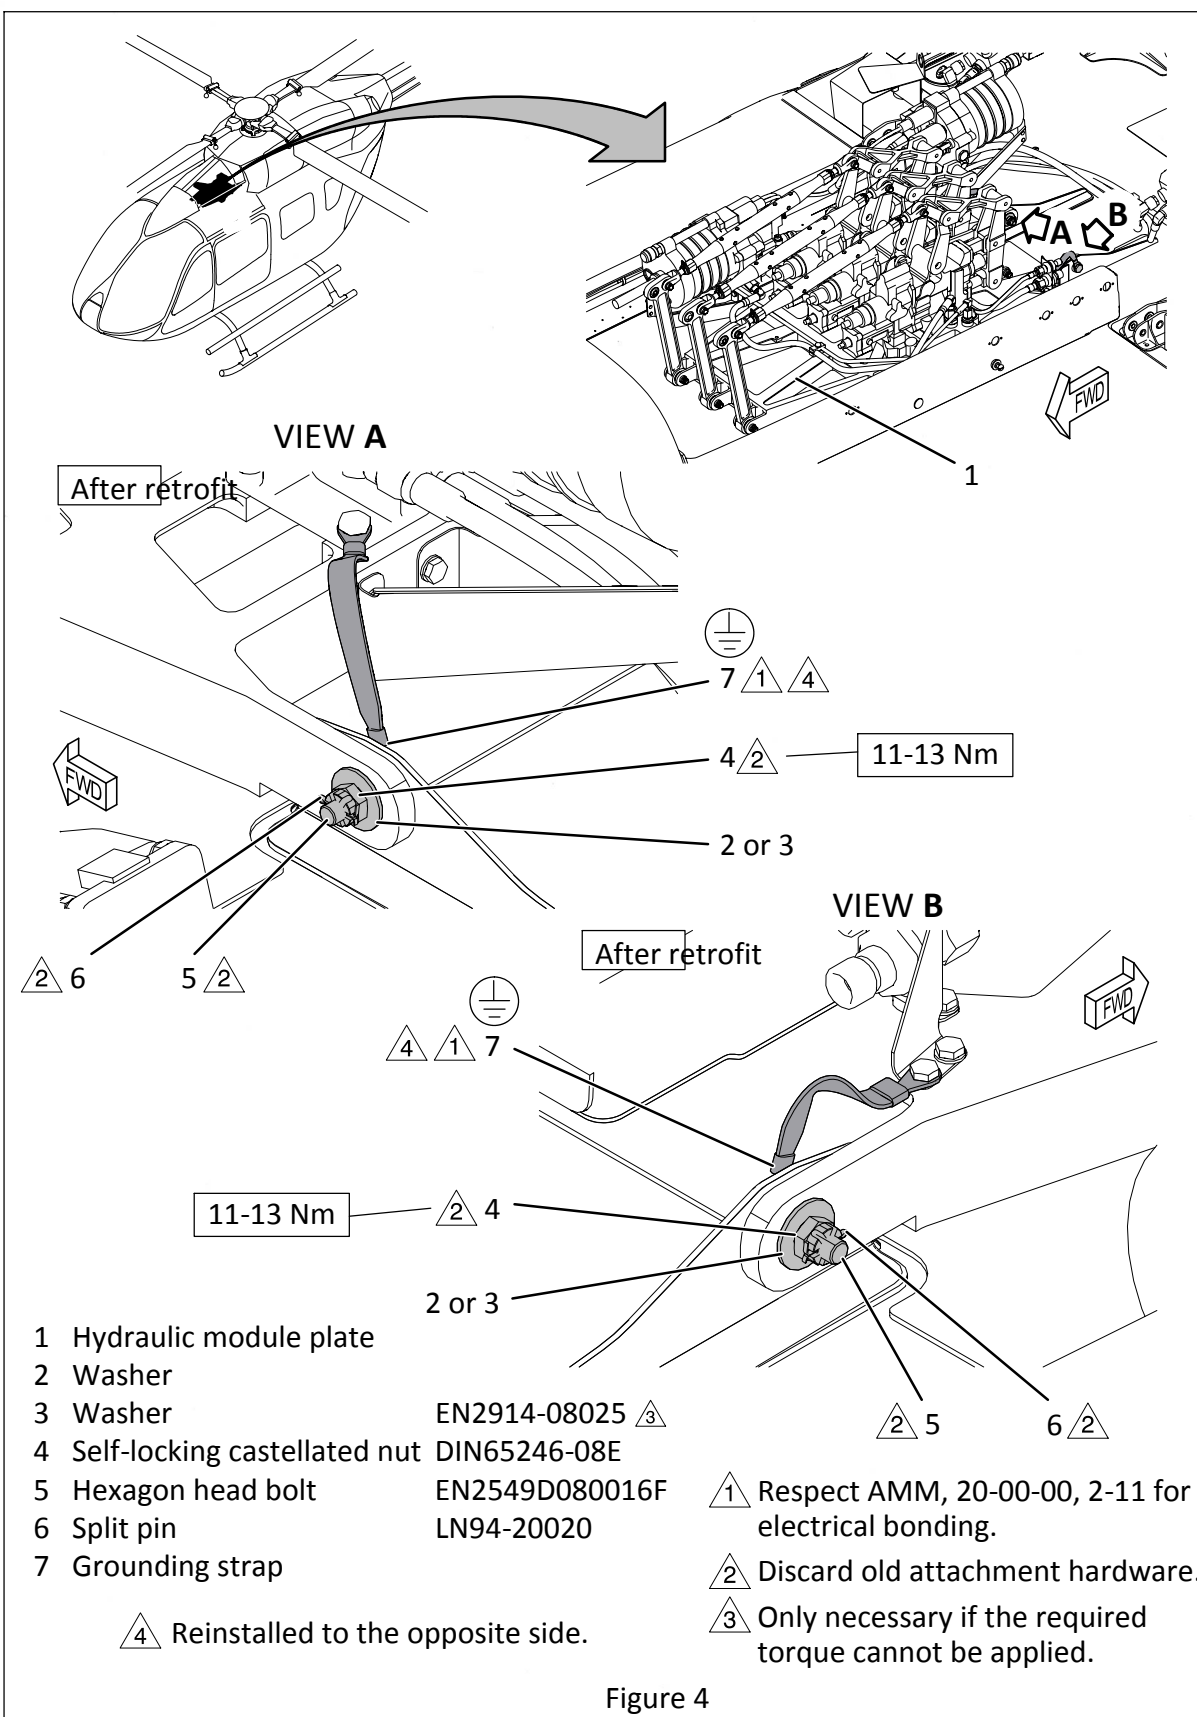
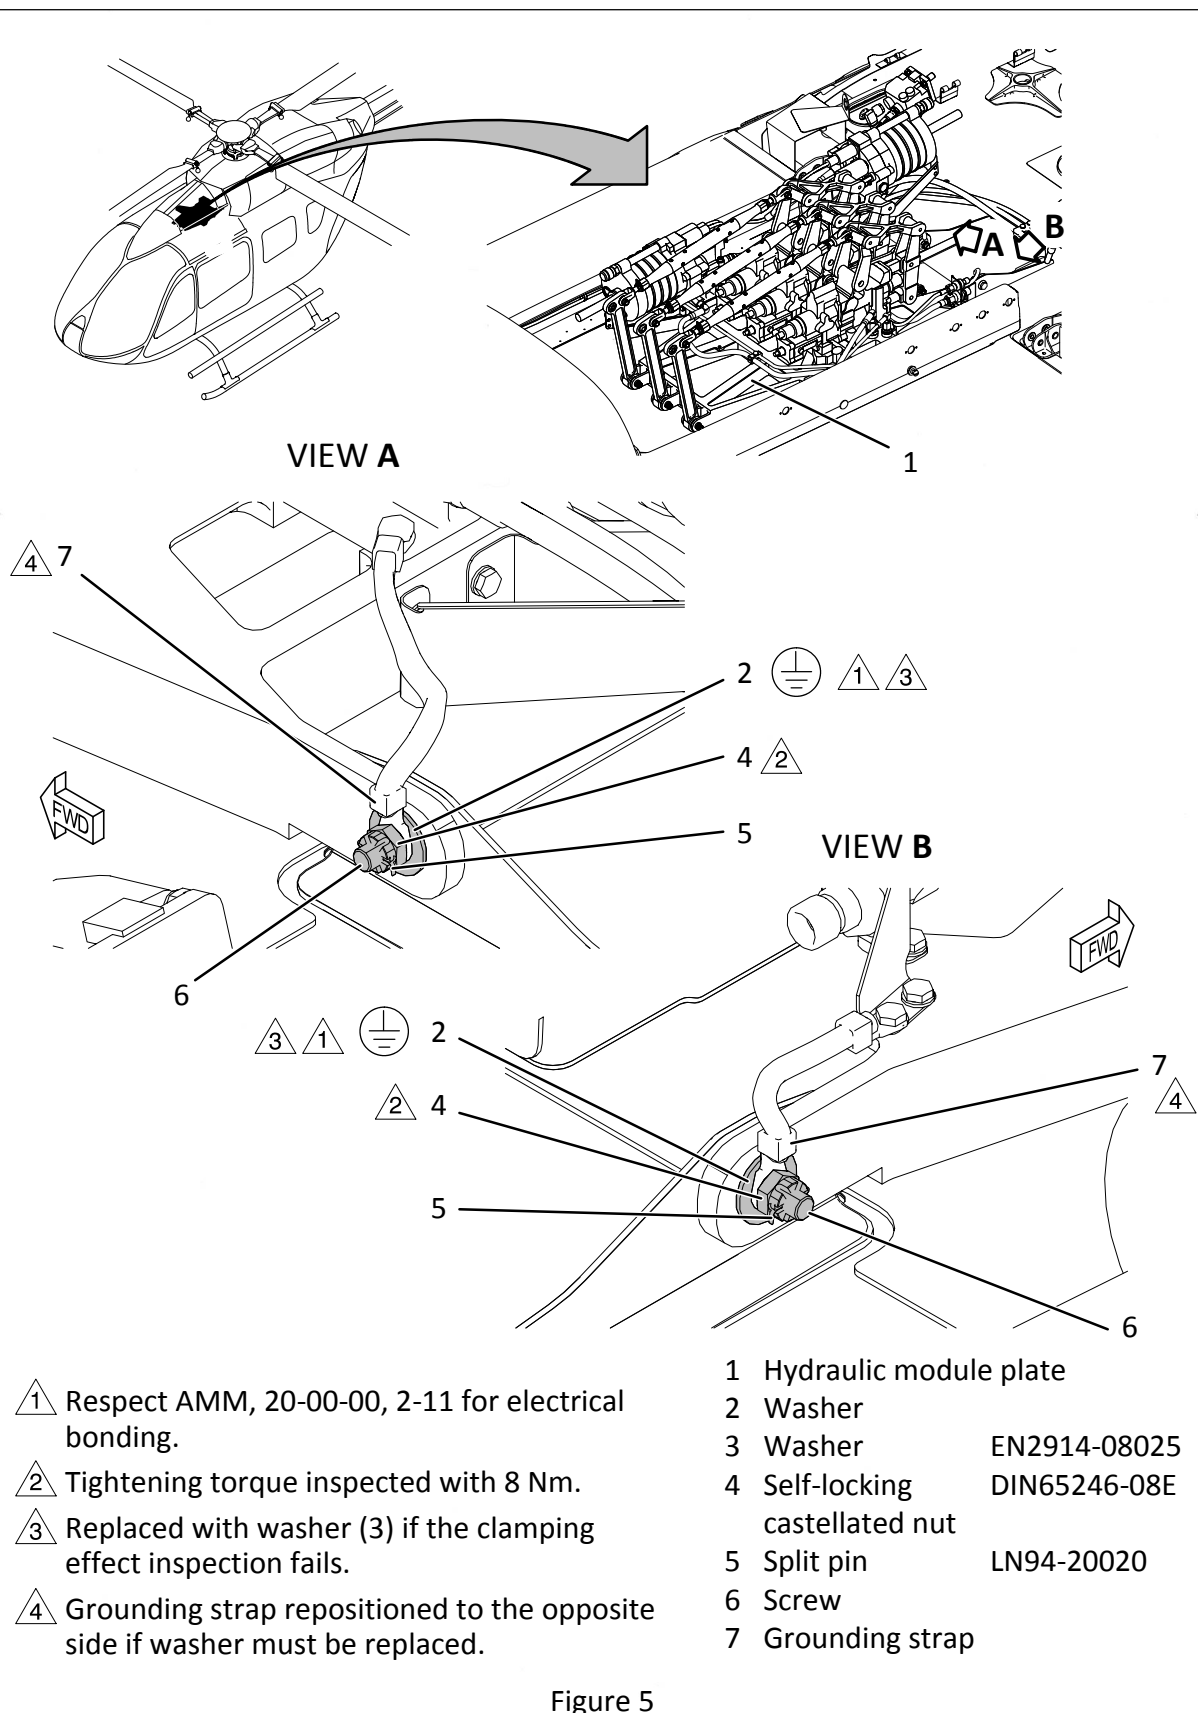

Figure 4
Figure 5
1. Remove the installed split pin (6, Fig. 4), the castellated nut (4), the grounding strap (7), the washer (2) and the hexagon head bolt (5).
2. Store the washer (2, Fig. 4) for reuse. Discard the split pin (6), the castellated nut (4) and the hexagon head bolt (5).
NOTE During the reinstallation the grounding strap must be installed to the opposite site of the attachment point of the hydraulic module plate (see Figure 4).
3. Install the new hexagon head bolt (5, Fig. 4), the washer (2), the grounding strap (7) and the new self-locking castellated nut (4). Tighten the self-locking castellated nut (4) with a tightening torque of 11-13 Nm.
NOTE The washers (3, Fig. 4) are not included in material kit SB-117C2-29A-003-2C and must be ordered separately with material kit SB-117C2-29A-003-2C2 if necessary.
NOTE If one screw joint is affected it is recommended to replace the washer (2, Fig. 4) on the LH and RH aft screw joint of the hydraulic module plate.
- Remove both self-locking castellated nuts (4, Fig. 4).
- Replace both washers (2, Fig. 4) with washers (3).
NOTE A low thread protrusion is allowed while using the washer (3, Fig. 4). The thread end of the screw **must** be at least flush with the top of the nut. If the thread end of the screw **is not** at least flush with the top of the nut on the **not affected** screw joint, the washer (2) must be reinstalled.
- Install both self-locking castellated nuts (4, Fig. 4). Tighten both self-locking castellated nut (4) with a tightening torque of 11-13 Nm.
5. Secure both self-locking castellated nut (4, Fig. 4) with a new split pins (6).
2. Do an inspection of the clamping effect of the LH and RH aft screw joints of the hydraulic module plate (1, Fig. 5):
NOTE The washers (3, Fig. 5) are not included in material kit SB-117C2-29A-003-2C and must be ordered separately with material kit SB-117C2-29A-003-2C2 if necessary.
NOTE If one screw joint is affected it is recommended to replace the washer (2, Fig. 5) on the LH and RH aft screw joint of the hydraulic module plate.
- Remove both split pins (5, Fig. 5). Discard the split pin.
- Remove both self-locking castellated nuts (4, Fig. 5). Discard the self-locking castellated nut
- Check the affected screw (6, Fig. 5) for wear and replace the screw if necessary.
- Reposition the grounding strap (7, Fig. 5) to the opposite site of the attachment point of the hydraulic module plate (see Figure 4).
- Replace both washers (2, Fig. 5) with washers (3).
NOTE A low thread protrusion is allowed while using the washer (3, Fig. 5). The thread end of the screw **must** be at least flush with the top of the nut. If the thread end of the screw **is not** at least flush with the top of the nut on the **not affected** screw joint, washer (2) must be reinstalled.
- Install the new self-locking castellated nut (4, Fig. 5). Tighten the self-locking castellated nut (4) with a tightening torque of 11-13 Nm.
- Secure the self-locking castellated nut (4, Fig. 5) with a new split pin (5).